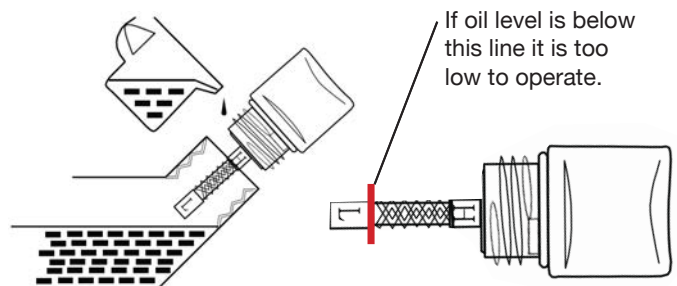

Figure 19 - Checking Oil Level
- **Acceptable Oil Level** – Oil is visible on the crosshatches between the H and L lines on the oil fill plug/dipstick (see Figure 19).
8. Continue to add oil until the oil is at the correct level. See Figure 19.